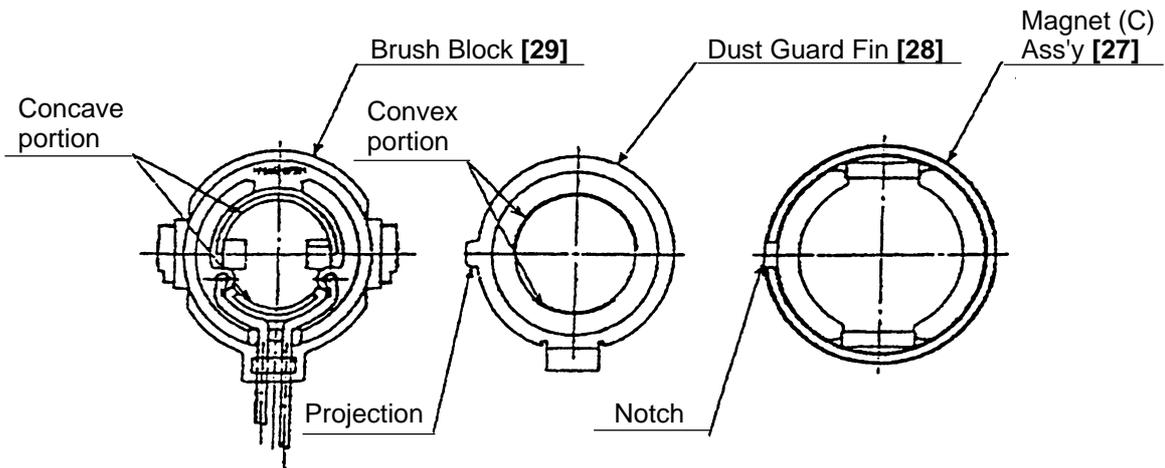
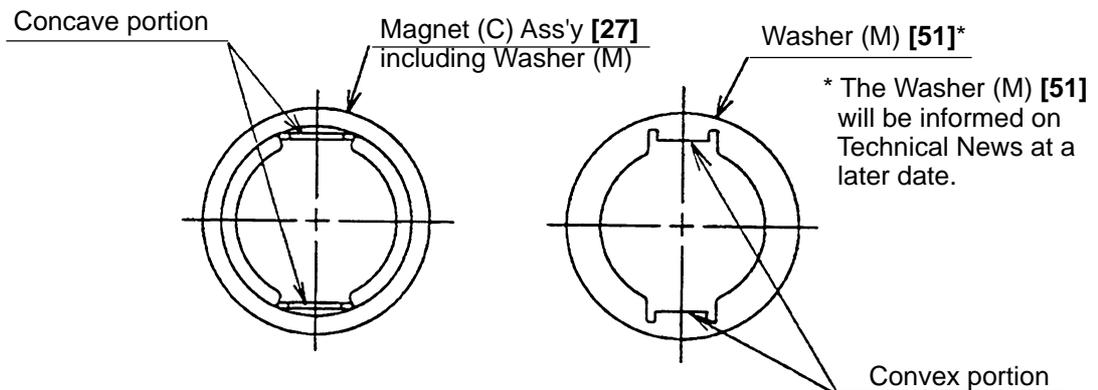

Fig. 11
Fig. 12
- Adjust the protrusion of the Dust Guard Fin [28] to the notch of Magnet (C) Ass'y [27] when mounting the Dust Guard Fin [28] to Magnet (C) Ass'y [27] (See Fig. 11).
- Adjust the convex portion of Washer (M) [51] to the concave portion of Magnet (C) Ass'y [27] when mounting Washer (M) [51] to Magnet (C) Ass'y [27] (See Fig. 12).
- Insert the two Dampers [24] so that they fit into the Inner Cover [25]. Fit the locking rib of Ring Gear (C) [21] to the concave portion of the Damper [24]. Press-fit the Armature DC 14.4V [26] into the Inner Cover [25].
- Adjust the convex portion of the Dust Guard Fin [28] to the concave portion of the Brush Block [29] (See Fig. 11).
- Adjust the notch (for locking) of Magnet (C) Ass'y [27] to the protrusion of Housing (A) [35] (See Figs. 11 and 13).